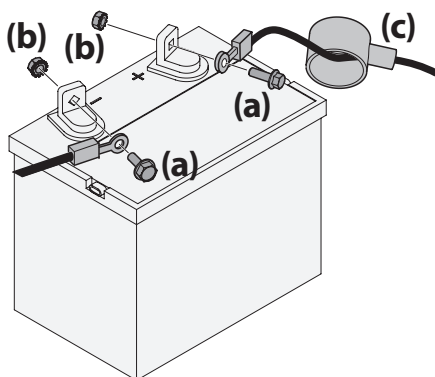

Figure 14
1. If present, remove the plastic cover from the positive battery terminal. Attach the red connector to the positive battery terminal (+) using the bolt (a) and hex nut (b). See Figure 14.
2. If present, remove the plastic cover from the negative battery terminal and attach the black cable to the negative battery terminal (-) with the bolt (a) and hex nut (b). See Figure 14.